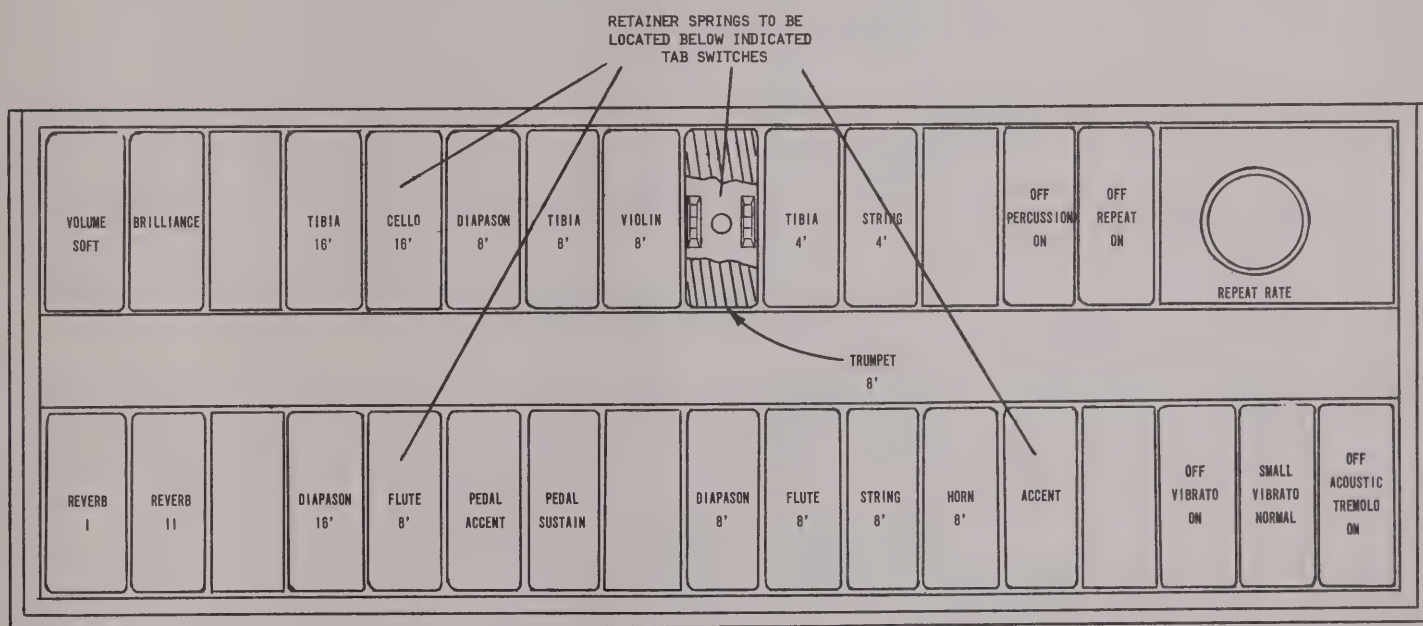

FIGURE 1
- D. Next remove the twelve (12) 1/4" hex screws which secure the Voicing and Preamp. P.W.B. to the plastic End Block.
- F. Upon lifting the P.W.B. from the plastic End Block, insert the 1/4" hex screws (885-070533) in the existant holes in the End Block Moulding in the locations designated in Figure 1. The screws are then tapped into the metal clips (shown in Figure 2.) which will be placed on top of the End Block in between the support arms for the rod that suspends the Rocker Switches. (Also designated on the diagrams)